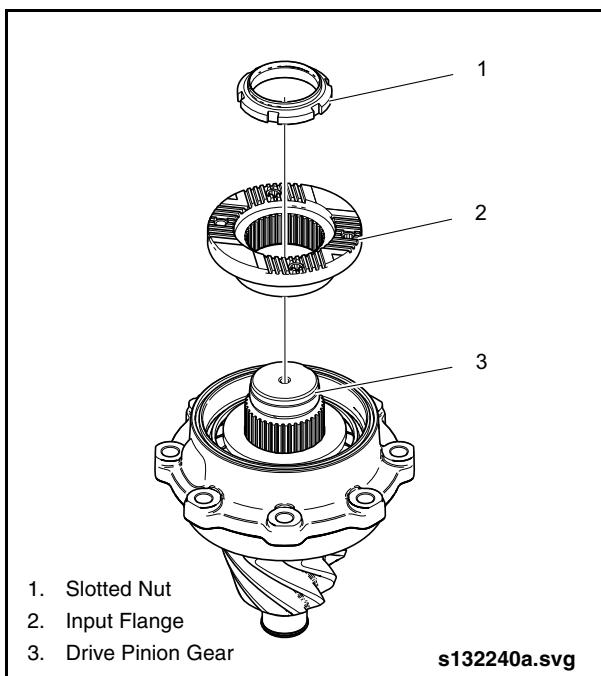

Fig. 2-82: Installing Input Flange Without Seal
1. Install input flange on drive pinion gear without radial shaft seal. See "Fig. 2-82: Installing Input Flange Without Seal" on page 70.